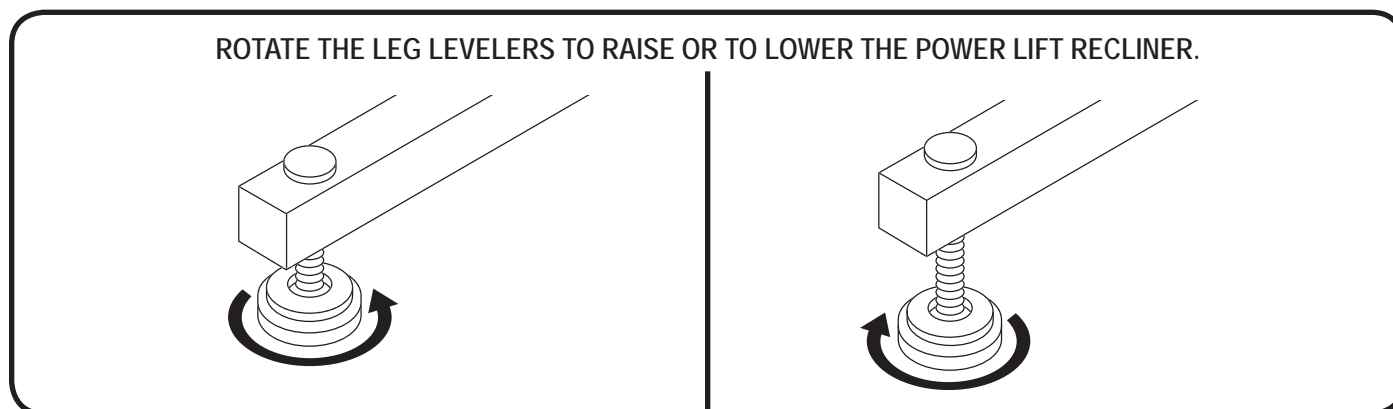

Figure 3.3 Leg Levelers
Leg Levelers: Manually rotate up or down in order to stabilise the recliner before use (**Fig. 3.3**).
2. Adjust the leg levelers to stabilise the power lift recliner (**Fig. 3.3**).